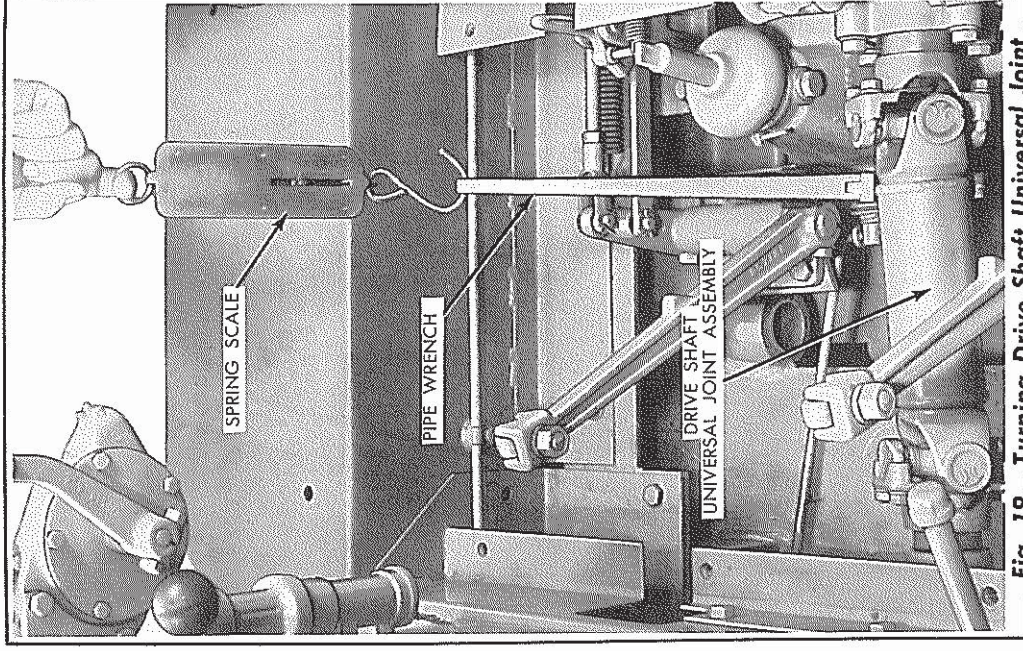

Fig. 19 — Turning Drive Shaft Universal Joint Assembly to Tighten Track Sprocket Retaining Nut
- d. Use a 24-inch pipe wrench, chain drive shaft universal joint assembly, a spring scale attached to the end of the wrench handle, turn the universal joint counter-clockwise (viewed from seat) to tighten the right sprocket retaining nut. Turn the universal joint clockwise (viewed from seat) to tighten the left sprocket retaining nut. Turn the universal joint until a pull of 17 to 19 pounds is indicated on the spring scale attached to the end of the 24-inch pipe wrench as shown in Fig. 19. This will impose a torque of 3500 to 4000 lbs. ft. on the sprocket retaining nut. *NOTE: During this tightening procedure, strike the sprocket, as near to the hub as possible, with a sledge hammer to make certain the sprocket is properly seated on the shaft.*